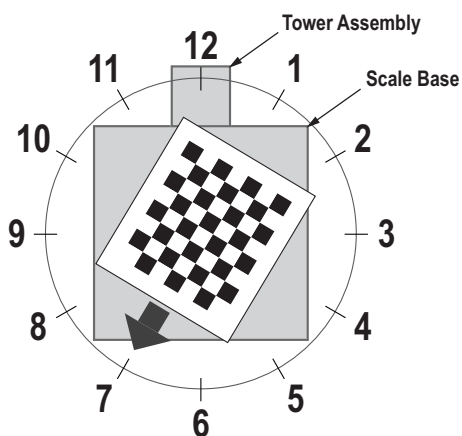

Figure 5-10. Rotate to 7 o'clock
11. Align calibration object so the cross hairs are centered. Rotate the calibration object to 7 o'clock with the tower assembly being at 12 o'clock (Figure 5-10).